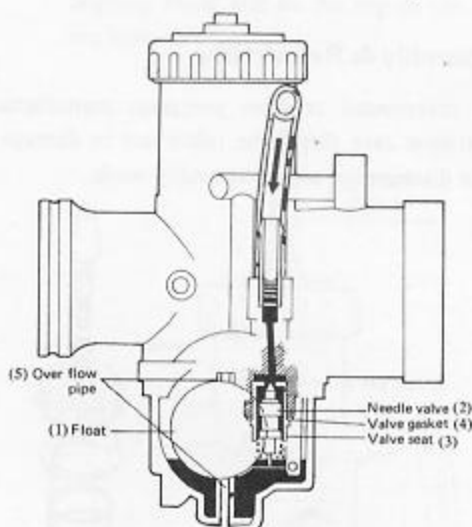

Fig. 8-6 Float system
and, as shown in Fig. 8-6, consists of a float (1), a needle valve (2), a needle valve seat (3) and a valve seat gasket (4). In addition to the function of a valve for adjusting the fuel flow, they play a very important role to keep a constant fuel level in the float chamber.